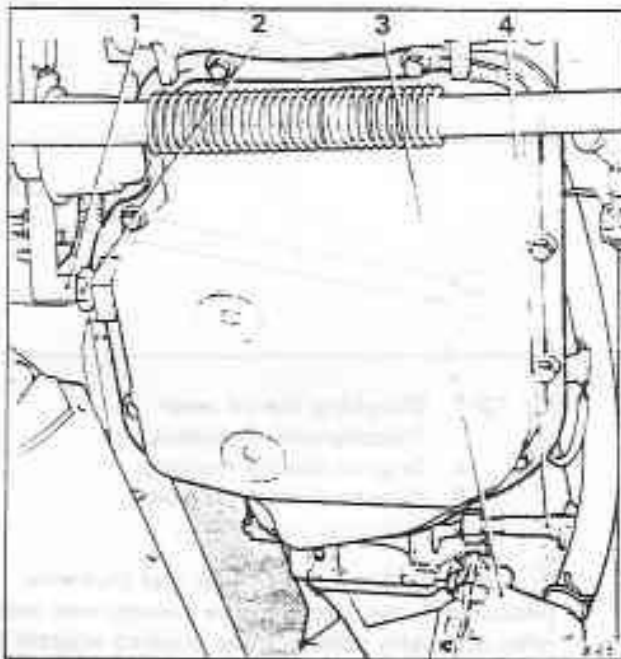

Fig. T2-2 Transmission sump
2. Place a clean container, minimum capacity 3 litres (5 Imp pt, 6 US pt) under the nut which secures the filler tube to the side of the sump (see fig. T2-2).